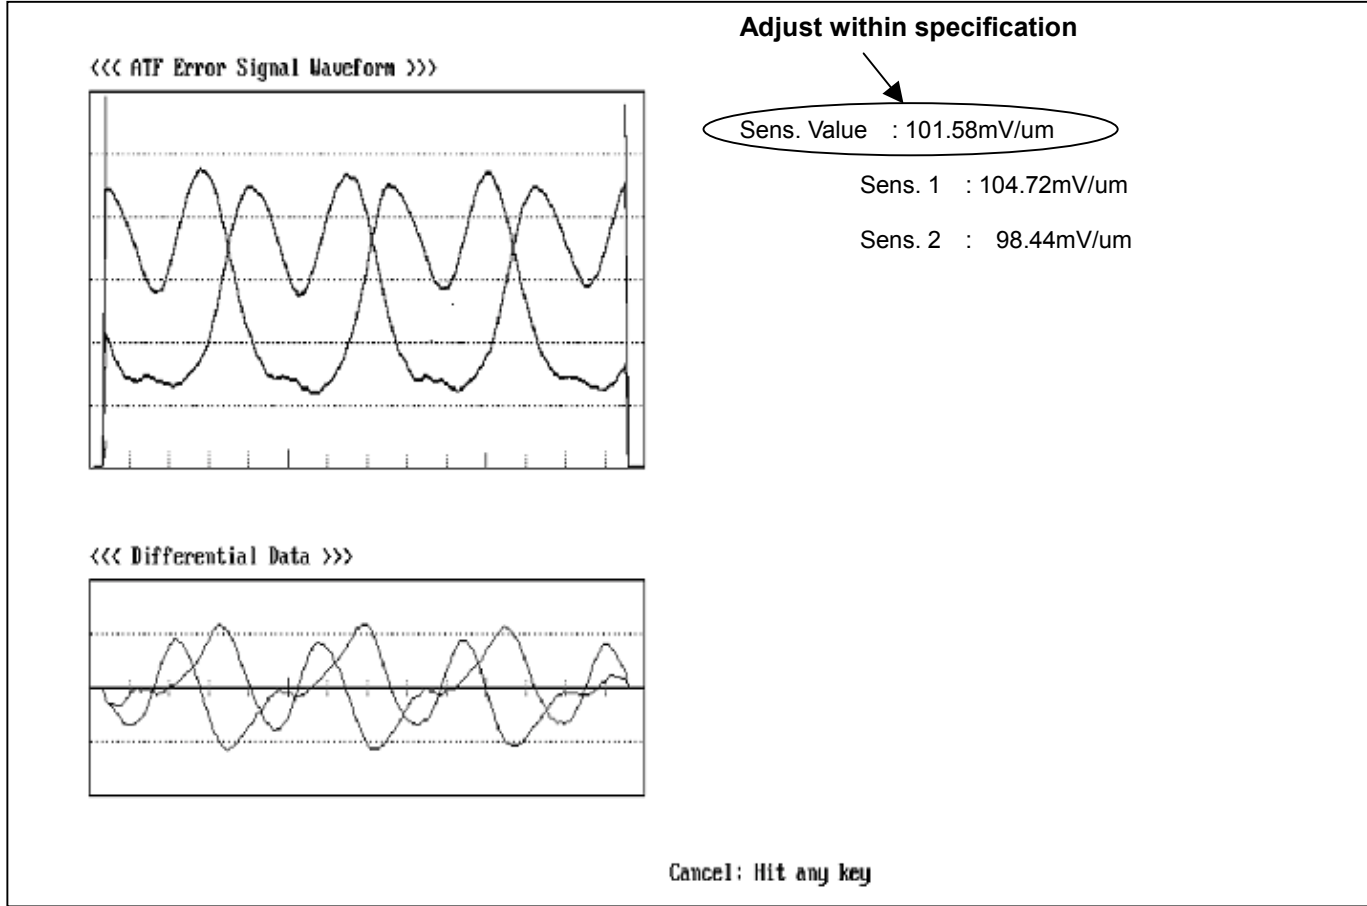

Figure 3-32-3
4. When the picture is appeared as shown in figure 3-32-3, adjust ATF Gain (A14: RPL GAIN 25) so that the "Sens. Value:" is in the Specification. To return the main menu, press ESC key.
5. Select Lista Main Menu "(1) Sensitivity Measurement" so that the screen of <ATF Error Signal monitor> appears (refer to 3-32-2).
9. If it is out of specification, return to item 3.